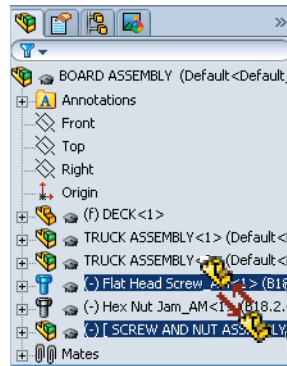

Fig. 13
Step 3. Drag the **Flat Head Screw** down into new **SCREW AND NUT ASSEMBLY**, **Fig. 13**. To drag part into assembly, grab the Flat Head Screw in the Feature Manager and drag over the Screw